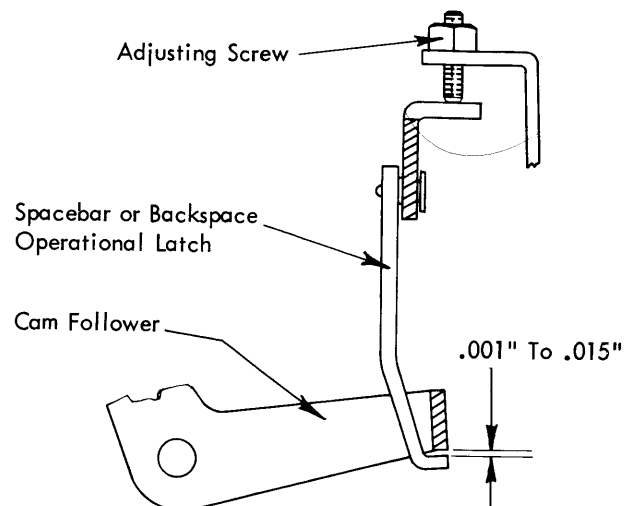

FIGURE 106. Latch Height
3. Operational Latch Height - Adjust the latch adjusting screws for the backspace and spacebar operational latches so that the latches will pass under the cam follower lever with a clearance of .001" to .015" (Fig. 106).